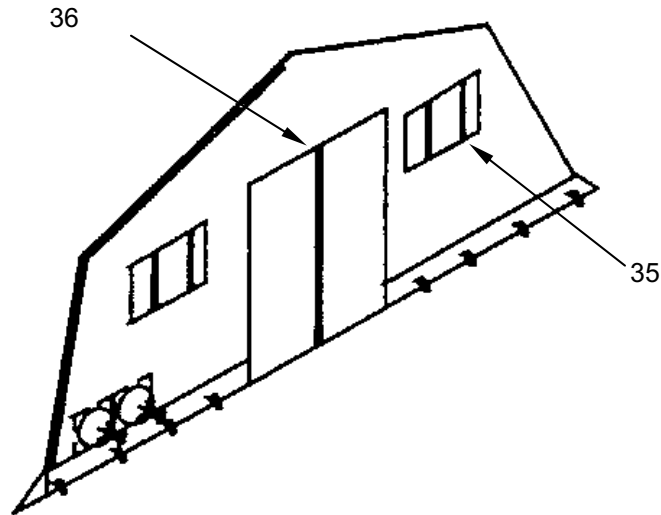

Figure 18. Identify End Section Components.
1. Identify end section (**Figure 18, Item 35**). Regular end section has zip doors (**Figure 18, Item 36**) rather than the bootwall attachment on the modified end section.